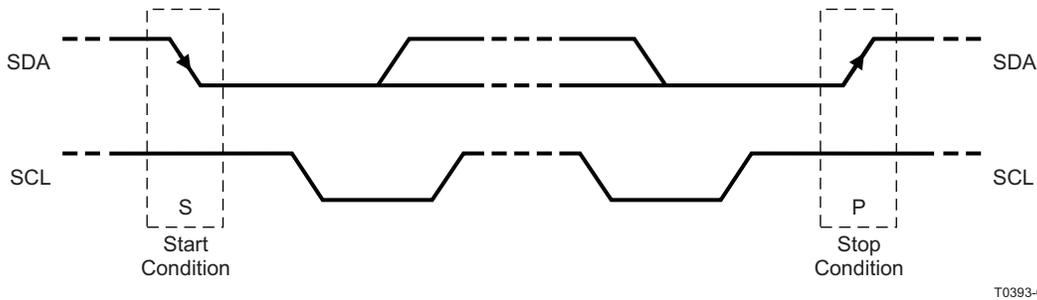

Figure 48. I²C Start and Stop Conditions
The basic I²C start and stop access cycles are shown in Figure 48.
- The *master* initiates data transfer by generating a *start condition*. The *start condition* is when a high-to-low transition occurs on the SDA line while SCL is high, as shown in Figure 48. All I²C-compatible devices should recognize a *start condition*.
- To signal the end of the data transfer, the master generates a *stop condition* by pulling the SDA line from low to high while the SCL line is high (see Figure 48). This releases the bus and stops the communication link with the addressed slave. All I²C compatible devices must recognize the stop condition. Upon the receipt of a *stop condition*, all devices know that the bus is released, and they wait for a *start condition* followed by a matching address.